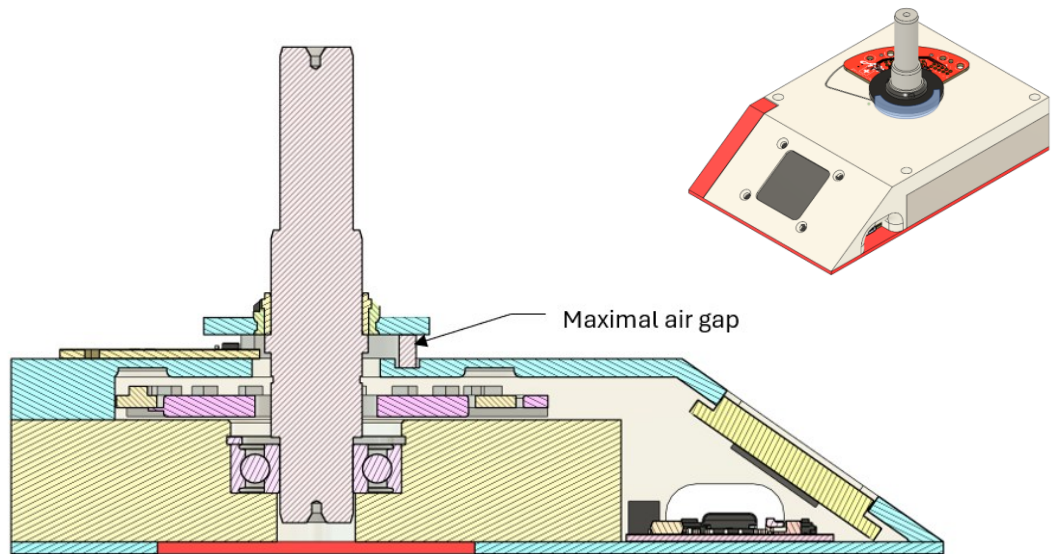

Figure 17: Maximal air gap: “Half-moon” distance holder below the magnet
- Turn off the power by moving the switch to the off-position (see figure 17).